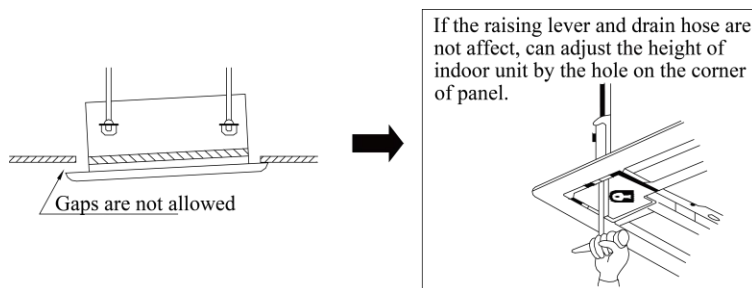

Fig. 2.15
- ②. If gap still exist between ceiling and decoration panel after tightening the screws, readjust the height of the indoor unit. (As shown in Fig. 2.15).